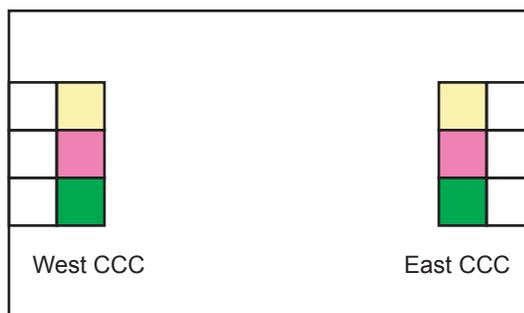

Figure 4-12 • NGMUX Interconnects
1. **Placing NGMUX.** One of the two available locations for NGMUX must be chosen: TILE5 of the central CCC locations (shown in yellow in Figure 4-12).
2. **Placing the driver for CLK0.** The driver for CLK0 has to be a CCC macro that can be placed in the CCC:GLA tile (shown in green in Figure 4-12). The CCC macros that can be placed here are as follows:
3. **Placing the driver for CLK1.** If the driver for CLK1 is a CCC macro, it infers a hardwired connection. This macro must be placed in the CCC:GLC tile (shown in pink in Figure 4-12) and has the same CCC macro restrictions as CLK0.